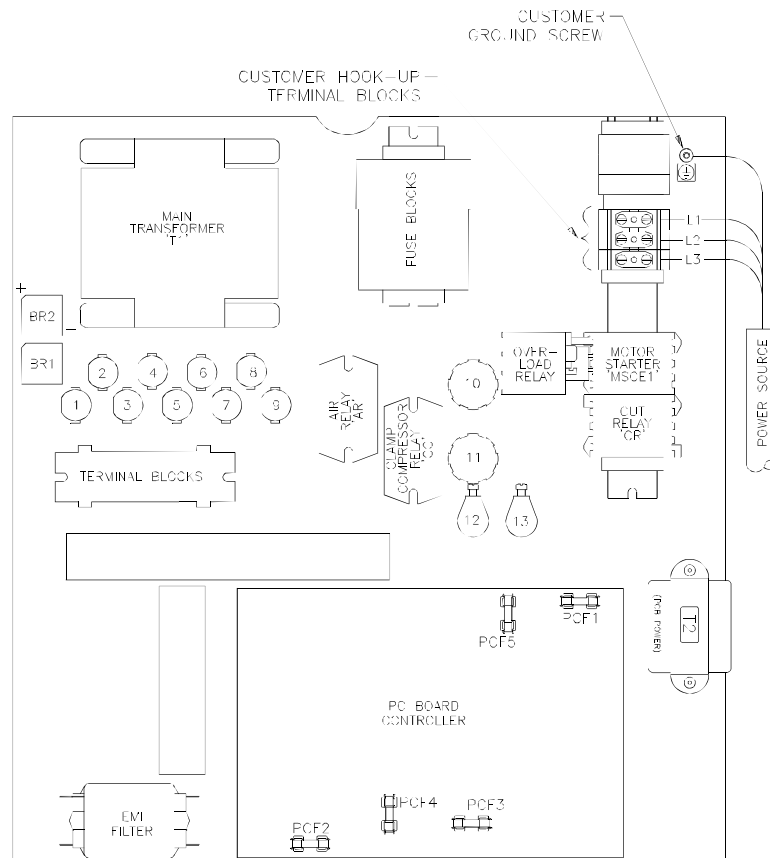

Figure 4
3. Fasten the ground lead to the ground terminal lug (Figure 4).
3. Fasten the ground lead to the ground terminal lug, (Figure 4 on page 16).